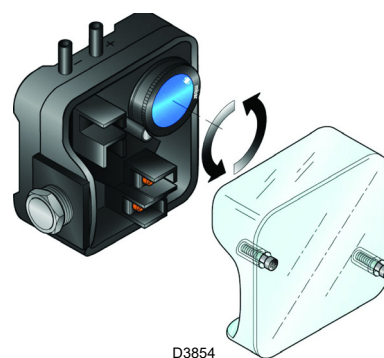

Fig. 39
- Adjust the air pressure switch (Fig. 39) to the start of the scale.
Adjust the air pressure switch after performing all other burner adjustments with the air pressure switch set to the start of the scale (Fig. 39).